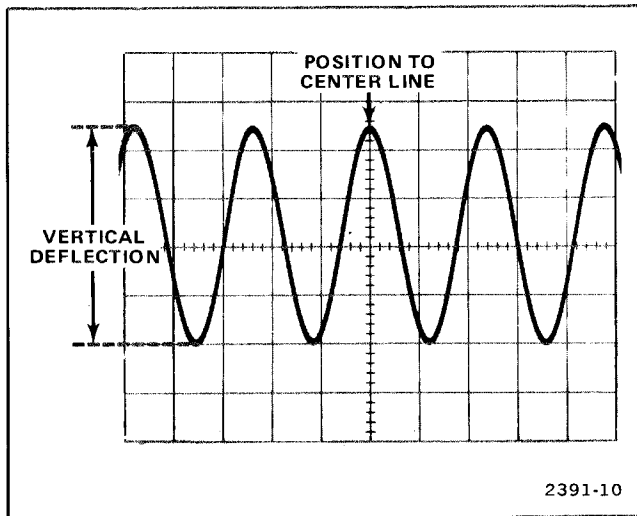

Figure 1-4. Measuring the peak-to-peak voltage of a waveform.
6. Turn the 7A24 POSITION control so the lower portion of the waveform coincides with one of the graticule lines below the center horizontal line, and the top of the waveform is within the viewing area. With the time-base Position control, move the display so one of the upper peaks lies near the center vertical line (see Fig. 1-4).
EXAMPLE: Assume that the peak-to-peak vertical deflection is 4.5 divisions (see Fig. 1-4) using a 10X attenuator probe, and the VOLTS/DIV switch is set to 1 V.